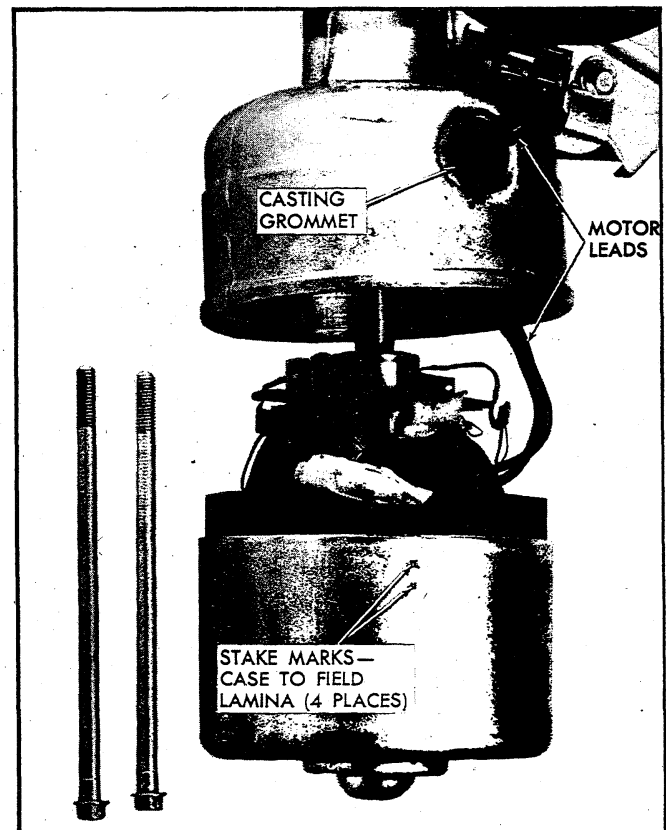

Fig. 76 - Wiper Motor Separation
3. Feed exposed excess length of motor leads thru the casting grommet and carefully back the case and field assembly plus the armature away from the casting (fig. 76).
unit. To free the field and case assembly, cut the solid black and black with pink stripe leads in a location convenient for splicing - preferably near the wiper terminal board. Refer to Figure 76.